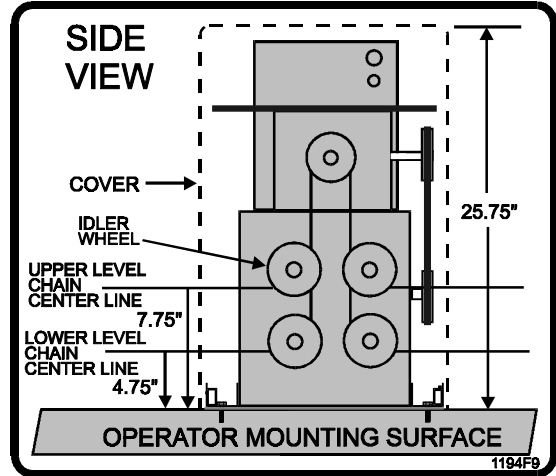

Figure 8. Chain Height.
5. Move the idler wheel mounting if required by this specific installation (Figure 8).